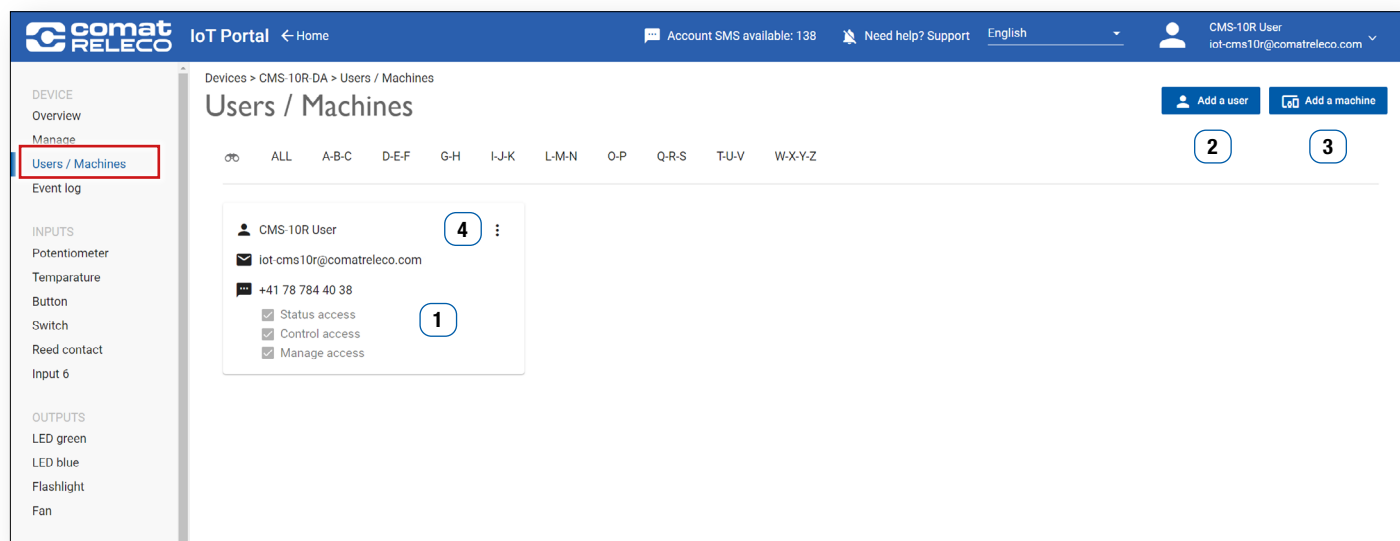

Figure 51
Press the **Add a user** button (Figure 51 (2)) to open this window.
This window is called up on the business card via the **Edit** menu items (Figure 51 (4)).
Use the **Add a machine** button (Figure 51 (3)) to open this window.